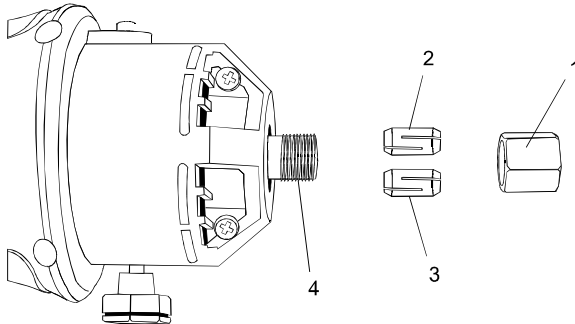

Fig. 3
The cutting bits for this tool are locked into place with a collet nut (1) and collet (see Fig. 3). The tool is assembled at the factory with a  $\frac{1}{8}$ " collet (2) which is used to hold the cutting bit. An additional  $\frac{1}{4}$ " collet (3) is supplied for holding SMALL router bits with a  $\frac{1}{4}$ " shank.